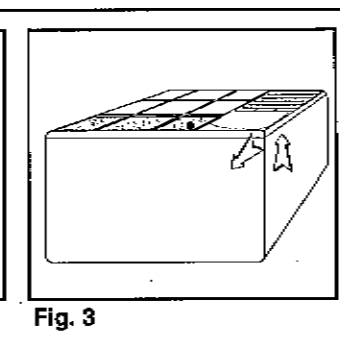

Fig. 3
- To remove the front grill, grasp the lower front corner of the grill, pulling (gently) outward and upward. (Fig. 3)